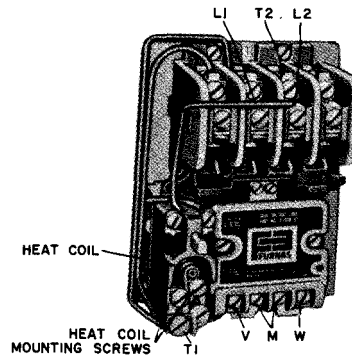

Figure 3.1 Magnetic Motor Starter
4.1. HEAT COIL SELECTION (See figure 3.1)